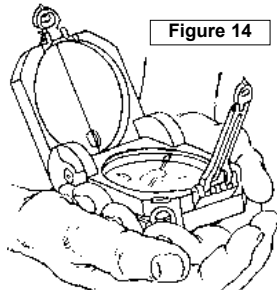

Figure 14
2. Open cover toward your body. (Fig 14)
3. Open large sight, until perpendicular to the body. (Fig 14)